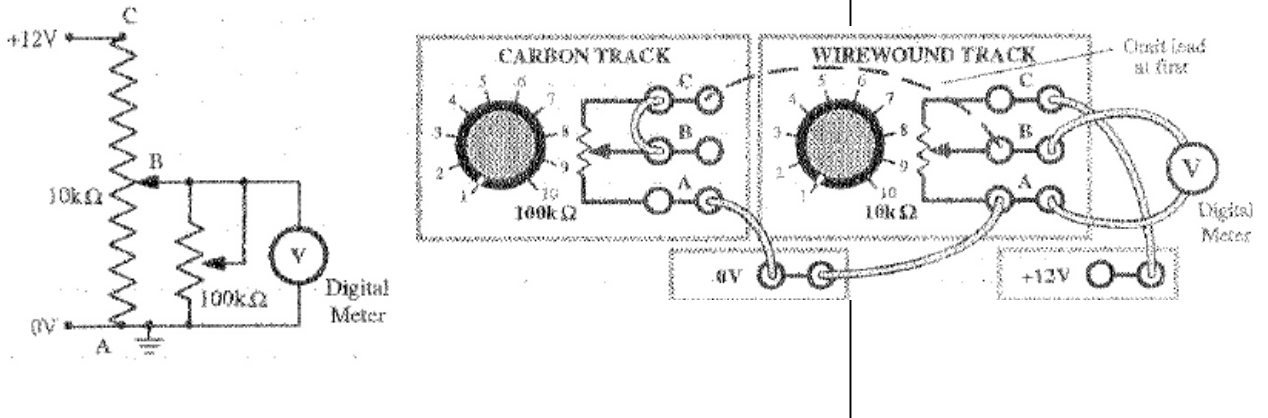

Figure 3
- 1) Construct the circuit in Figure 3 using 10k Ω wirewound rotary resistor and 100k Ω rotary resistors. Leave out the lead from contact C of the 100 k Ω resistor to contact B of 10k Ω , so that the load is not connected across the output..